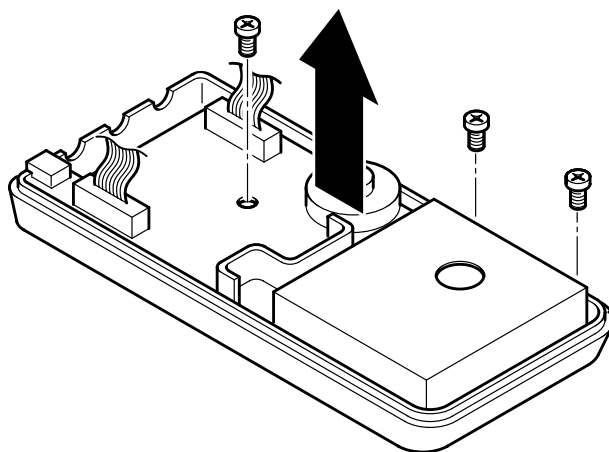

Figure 25: Handsfree PCB removal
3. (Figure 25) Remove the handsfree PCB (3 screws).